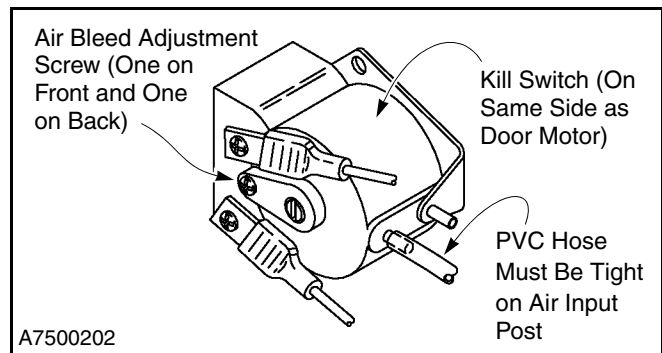

Figure 29
1. Make sure the clear PVC hose is tight on the air input post so that air leakage cannot occur and vibration will not cause the hose to fall off. Make sure the hose is not kinked. (See Figure 29.)
2. The air bleed has been set at the factory and should not require adjustment. To check the air bleed, turn the air bleed adjustment screws, located on the front and back of the switch, fully clockwise but do not overtighten. Then turn the screws counterclockwise one full turn. (See Figure 29.)